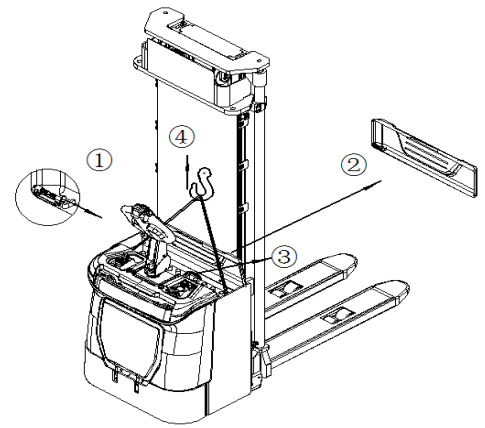

Fig. 12: Battery replacement without sideways battery
Park the truck securely and switch off the stacker with the key (or start-button) and activate the emergency button (18). Open the battery cover and pull out its hinge. Then, remove the battery cover, pull out the battery plug (Fig.12), and take the battery out with a crane. The installation is in the reverse order.